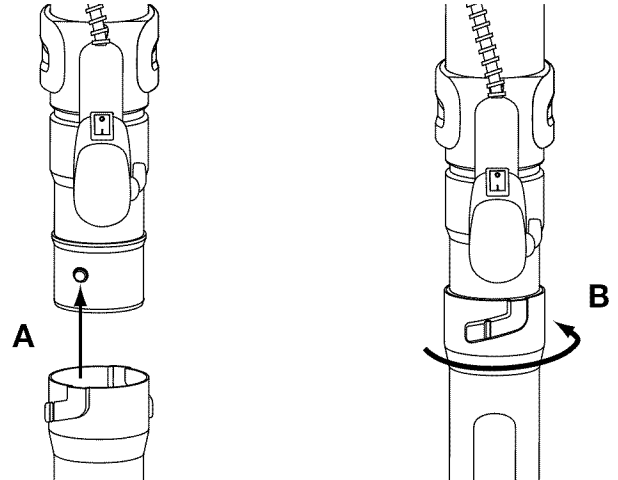

Fig. 3
1. Align the bump slot on the end of the first lower blower tube with the bump on the bottom end of the upper blower tube (Fig. 3, A).
2. Insert the bump on the upper blower tube into the bump slot on the tube extension (Fig. 3, A).
3. Twist the extension tube as shown around the upper upper blower tube until the handle tube bump locks into place (Fig. 3, B).